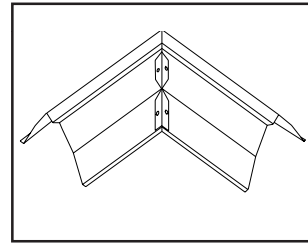

Figure 3-16
**Reflector Elbows** (Part No. RE) are designed to fit atop an elbow tube fitting (see figure 3-16).